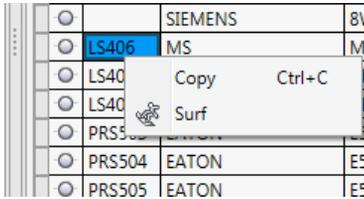

Figure 2-76 Shortcut menu displayed
2. Scroll down in the **PROJECT MANAGER** and select **LS406** from the **Tag** column. Next, right-click on it; a shortcut menu is displayed, as shown in Figure 2-76.